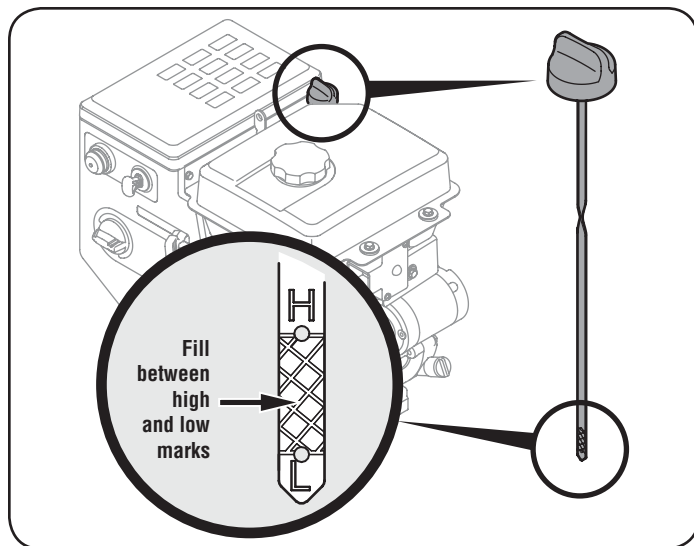

Figure 10
1. Make certain the springs at the lower end of the auger and drive cables are securely hooked into their respective actuator brackets before pivoting the handle upward. Refer to Fig. 10.
- Keep oil level between “H” and “L” marks on dipstick. See Fig. 10.
1. Remove the oil filler cap/dipstick and wipe the dipstick clean. See Fig. 10.
3. Remove the oil filler cap/dipstick. If the level is low, slowly add oil until oil level registers between high (H) and low (L), Fig. 10.